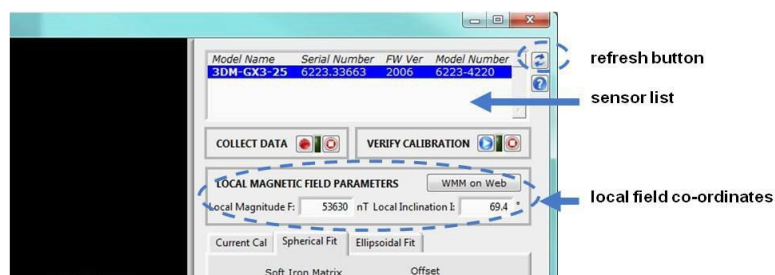

Figure 24 - Sensor Menu
2. Enter the Local Magnetic Field information (Figure 24 - Sensor Menu) for the sensor to account for magnetic influences inherent to the sensor's geographic location on the Earth. As needed, use the WMM on Web button to access a World Magnetic Model calculator on the British Geographic Survey website. This site, and similar sites, generate Local Magnitude F values based on latitude and longitude entries. In the calculator solution, these values will be found in row MF, column F.
3. The sensor should automatically appear in the sensor list (Figure 24 - Sensor Menu). If not, use the Refresh button to query it and then select the sensor.